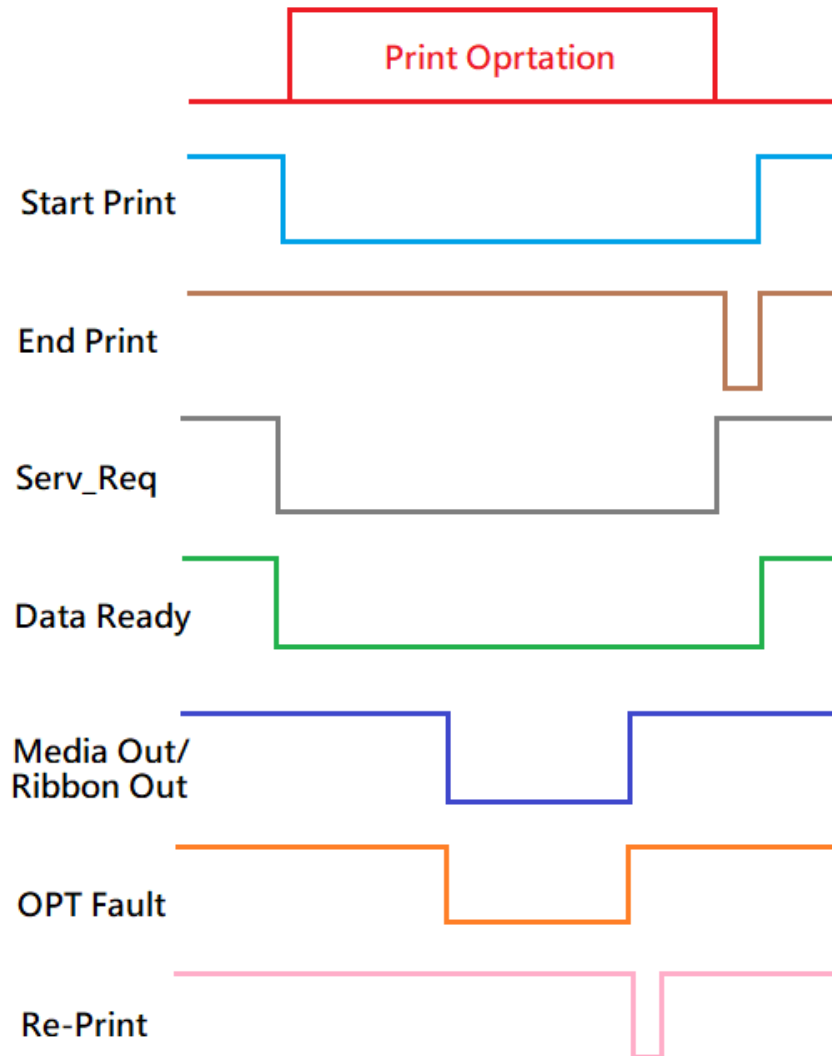

Figure 8
3.2 There are 6 output pins for printer's application; the timing chart is as Figure 8.